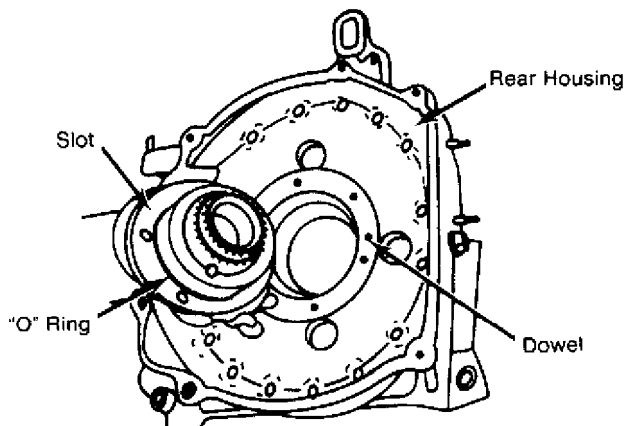

Fig. 8: Checking Oil Seal & Side Seal Step Wear
6) Check oil seal wear surface for variance. Check oil seal step by moving dial indicator from inside to outside of oil seal wear area. See Fig. 8.
7) Check side seal step wear by moving dial indicator around entire circumference of side seal tracing pattern. Side seal step wear limit is .0008" (.02 mm). See Fig. 8.